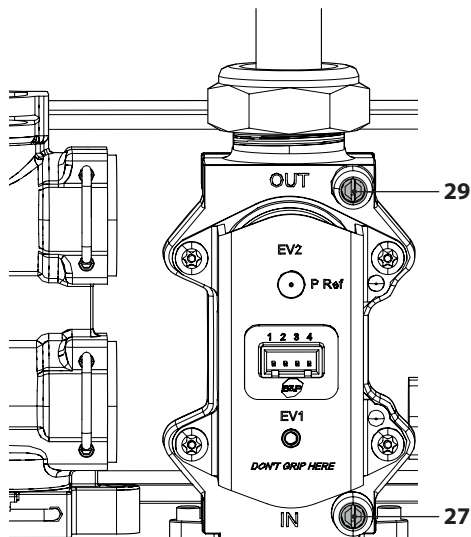

Figure 7.1
- With the boiler turned off (out of service), check the supply pressure using the tapping point 27 in Figure 7.1 and compare the value read with those shown in the Gas supply pressure table in section “Technical data M375CB.2025 SM” on page 24, “Technical data M375CB.2530 SM” page 28 and “Technical data M375CB.3035 SM” page 32.
- Fully close the tapping point 27 in Figure 7.1.